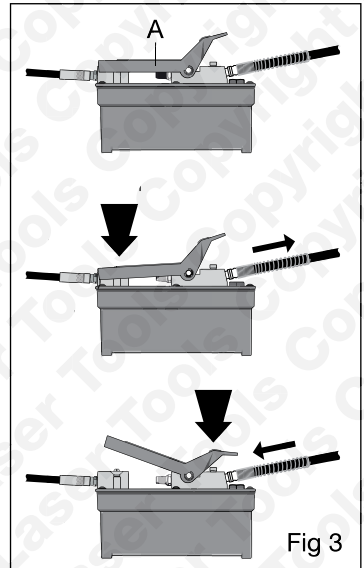

Fig 3
**Refer to Figure 3:** depressing the foot pedal **(A)** at the air inlet end (marked PUMP) activates the ram on the cylinder/attachment. To activate the ram a small distance, tap the foot pedal until the ram reaches the desired distance. Retracting the ram (releasing the hydraulic pressure) is carried out by depressing the foot pedal **(A)** at the opposite end (marked RELEASE).